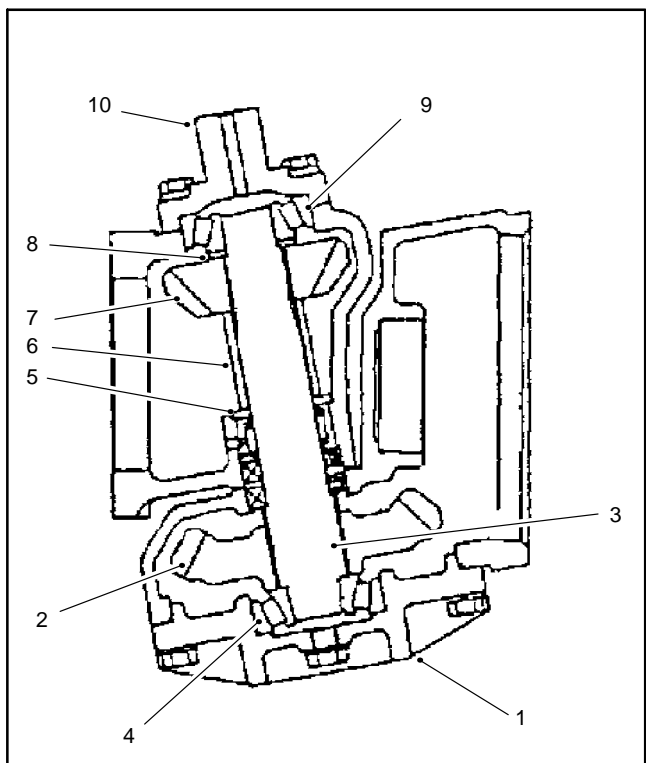

Figure 18
2. Install the lower bevel gear, and bevel gear shaft in the axle case cover. Coat a new O-ring with grease and install the axle case cover (Fig. 18). Tighten cover screws to 17 to 20 ft-lbs. (23 to 27 N-m).
3. Slide the bevel gear case over the bevel gear shaft and install the thrust washer, spacer, bevel gear, and collar. Make sure the bevel gear shaft is completely seated in the upper and lower bearings (Fig. 18).